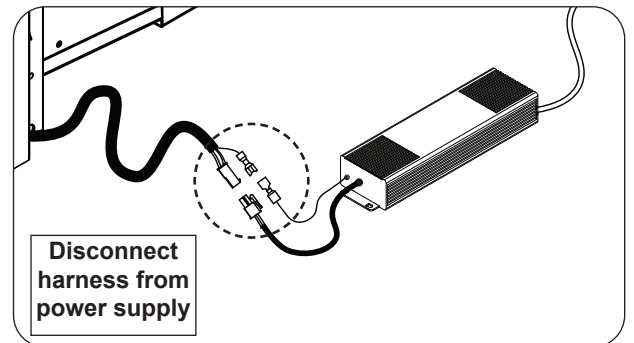

Fig. 28-2 Disconnect harness
1. Locate the harness coming from the grill and disconnect it from the power supply box. See Fig. 28-2